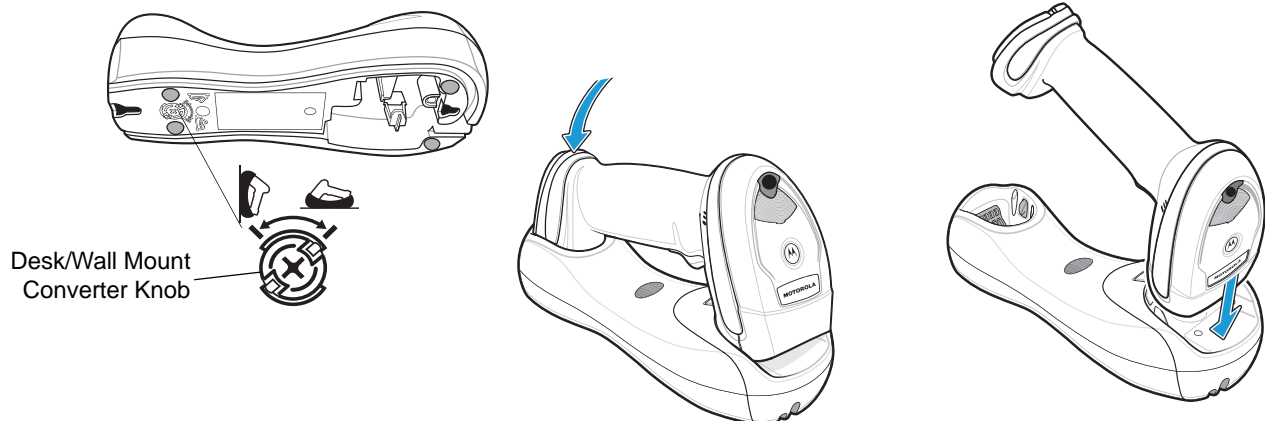

Figure 1-10 Horizontal Mount - Inserting the Linear Imager Scanner in the Cradle
2. Ensure the desk/wall mount converter knob is in the position shown in Figure 1-10.